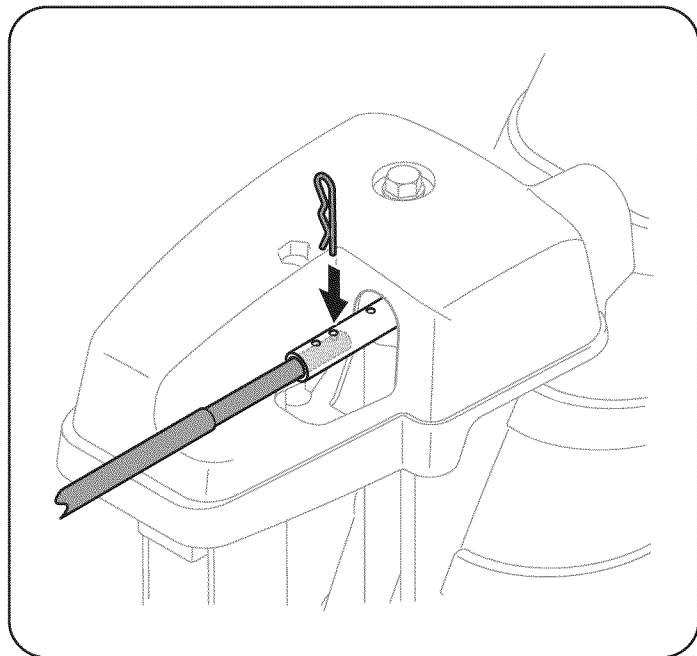

Figure 8
7. Push the chute control rod toward the control panel until the hole in the rod lines up with the middle hole in the chute control input and insert the cotter pin removed in Step 2. See Figure 8.